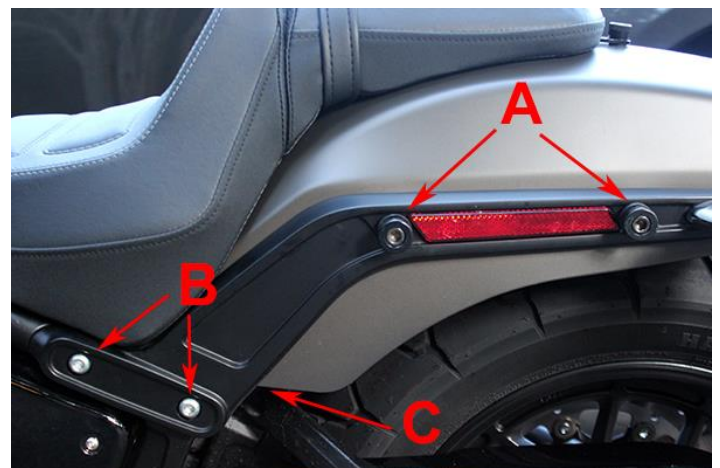

Fig 1
1. Remove the two OE fender bolts or OE Holdfast Docking Hardware bolts from each side of the fender (Fig 1-A).
6. Remove the two OE external fender mounting bolts (Fig 1-B) and the one internal fender mounting bolt (Fig 1-C) to remove the fender support from the bike. Be careful not to pull on the wiring that is channeled through the fender support.